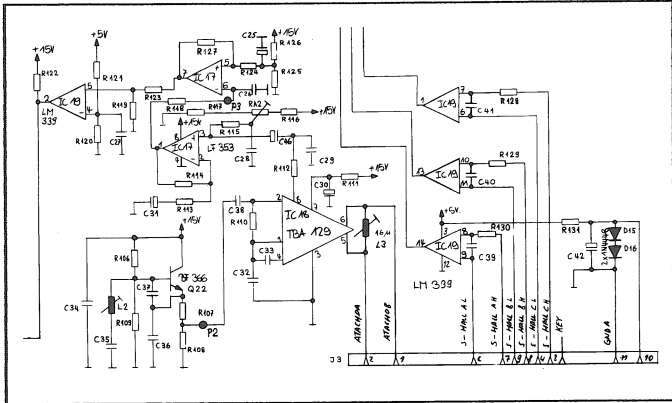

Fig. 11
- Hall element: reports the position of the rotor (IC19, Fig. 11), via connector pin (J3).